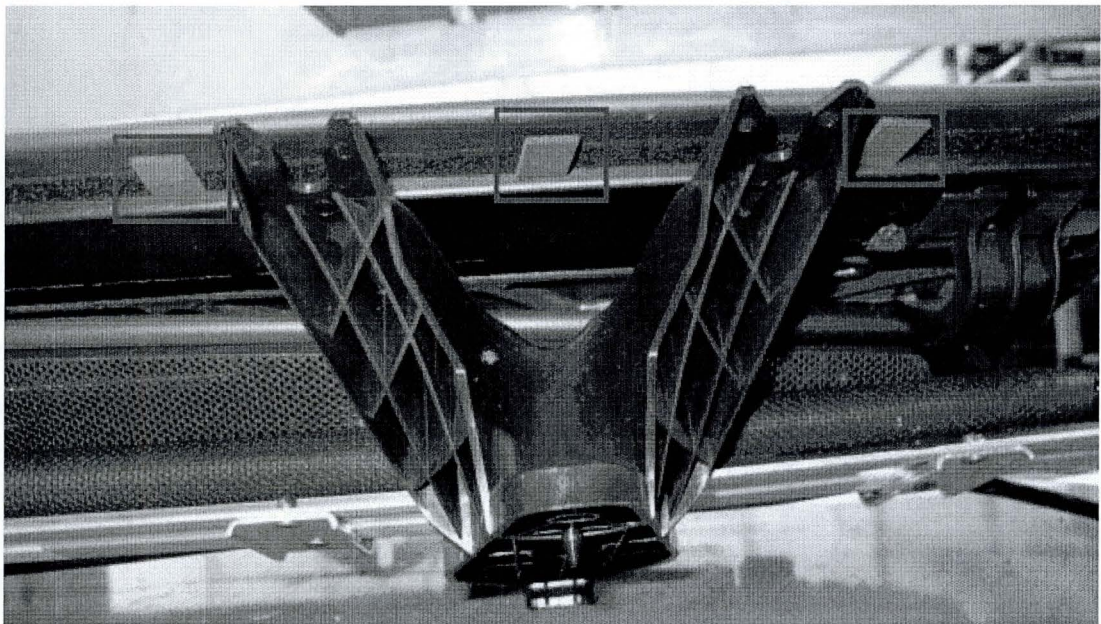

Figure 3
**NOTE:** when the sunblind door is closed the pads should not be visible, if positioned as shown in Figure 3 the pads will act as cushion between the door and the parcel shelf lip